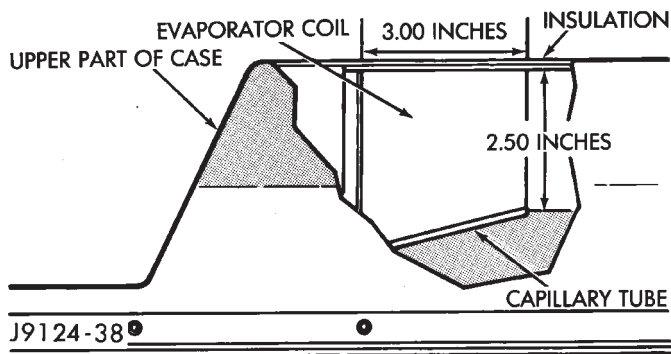

Fig. 7 Temperature Control Thermostat
(1) When installing a replacement temperature control thermostat, insert the capillary tube into the evaporator coil a minimum of 50 mm (2 inch) (Fig. 7).